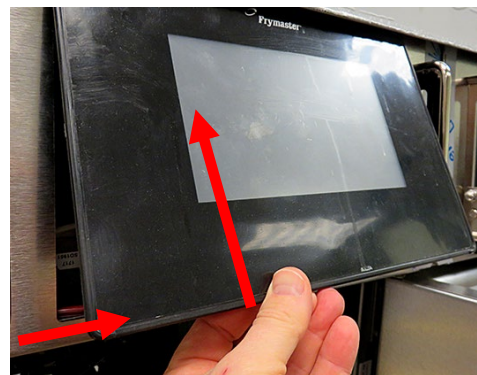

Figure 14
17. Lift the controller out from the bezel (see Figure 14).